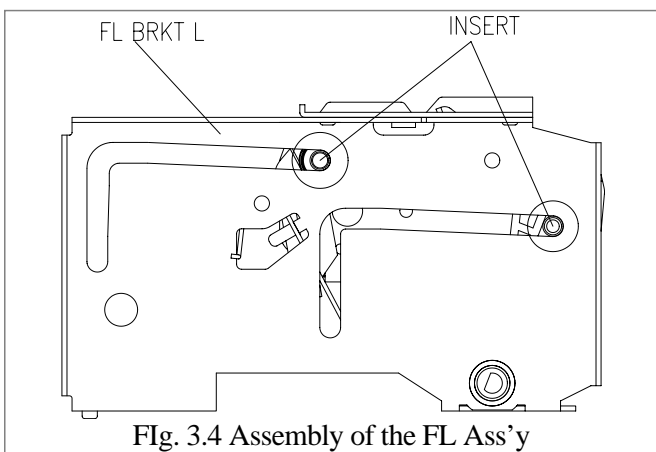

Fig. 3.4 Assembly of the FL Ass'y
- c. Separate the LOADING LEVER Ass'y by pressing the connection point from the CASSETTE HOLDER Ass'y. (Fig. 3.4)
- Confirm that 2 bosses on the left side of the CASSETTE HOLDER Ass'y are inserted in the groove on the left side of the top plate. Insert 2 bosses on the right side of the CASSETTE HOLDER Ass'y into the groove of the F/L BRACKET R. (Fig. 3.4)